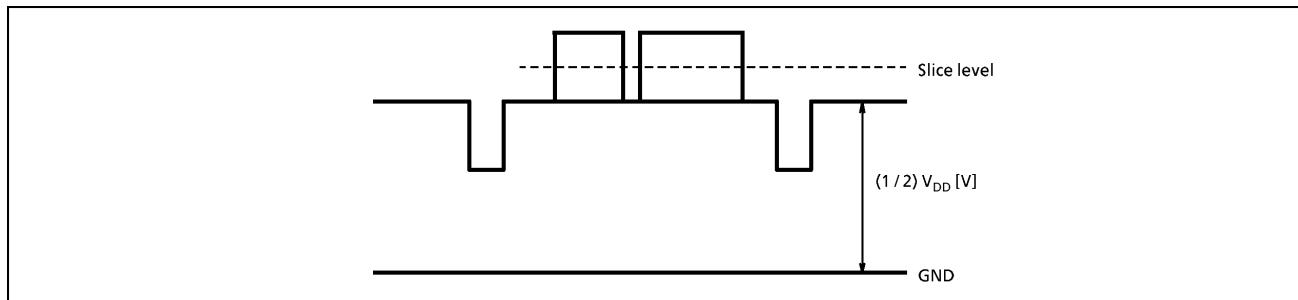

Figure 2-91. Pedestal Clamp
**b-1 Pedestal clamp (pin 41) ..... Clamped at (1 / 2) VDD [V] as shown in Figure 2-91.**